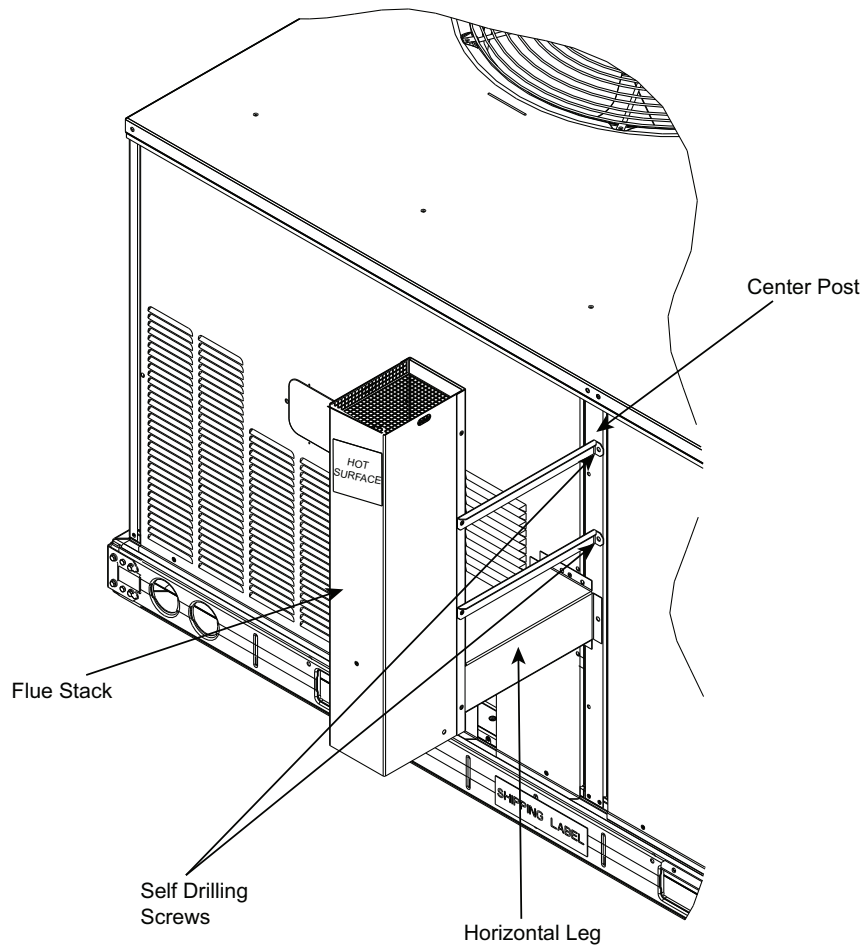

Fig. 2 — Flue Discharge Deflector Assembly (Front and Side View)
3. Mount the flue discharge deflector to unit by fastening the horizontal leg of the flue stack to the unit using four supplied no. 10 self-drilling screws. (See Fig. 2 and 3.)